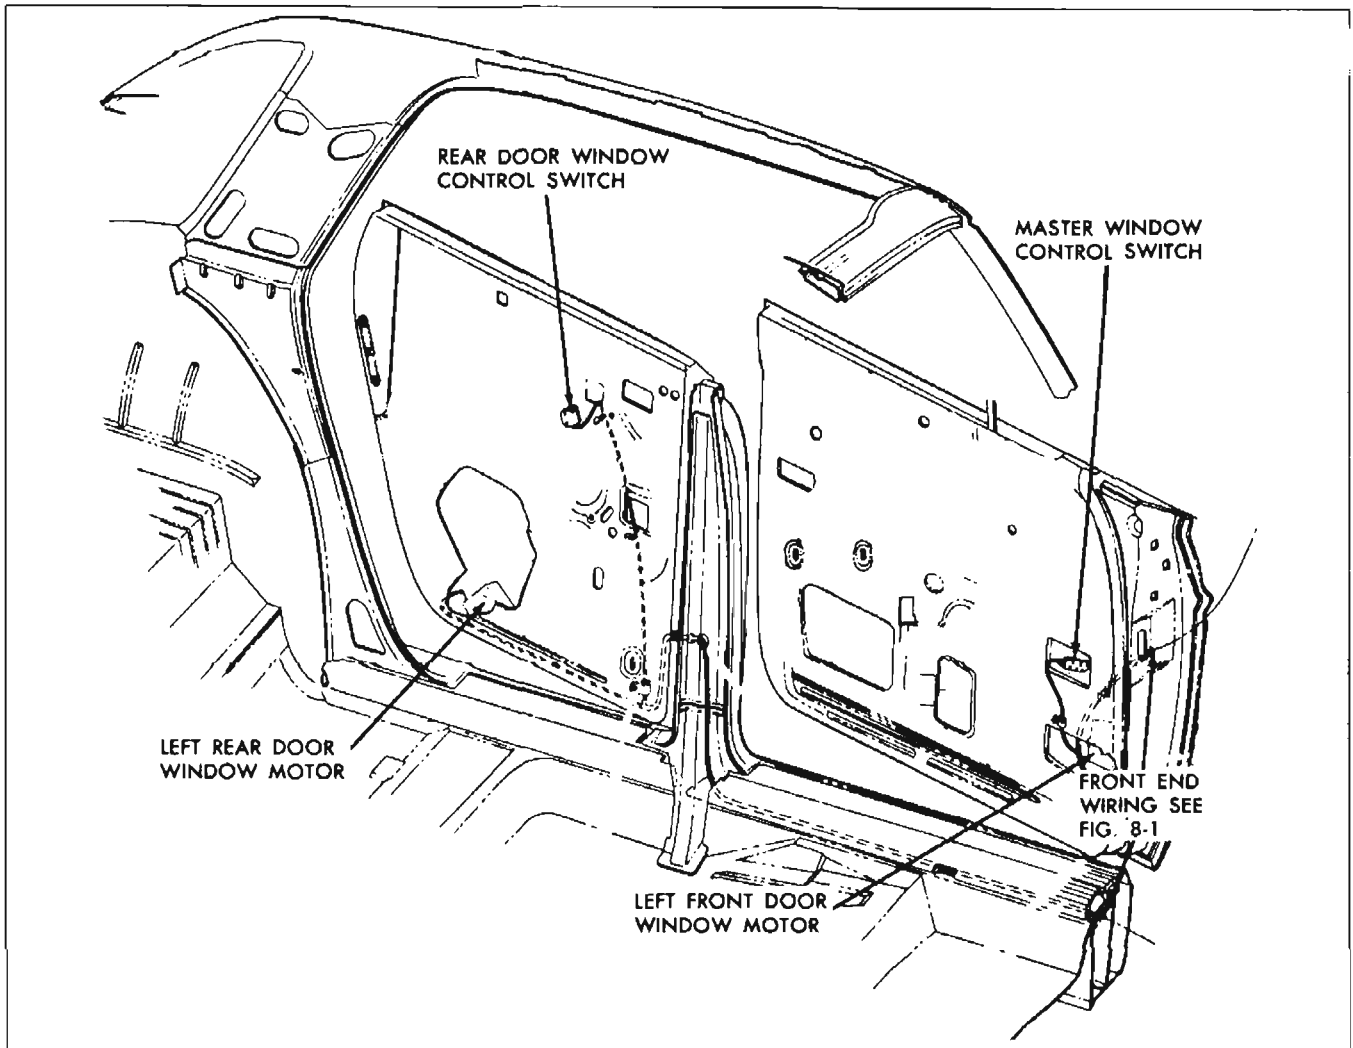

Fig. 8-2 Left Side Power Window Wiring Installation
2. **REAR DOOR OR REAR QUARTER WINDOW HARNESS**—A separate harness controls the operation of the right and left rear door or quarter windows. The right and left harnesses are connected to the front cross-over harness beneath the outer ends of the instrument panel (Fig. 8-2).